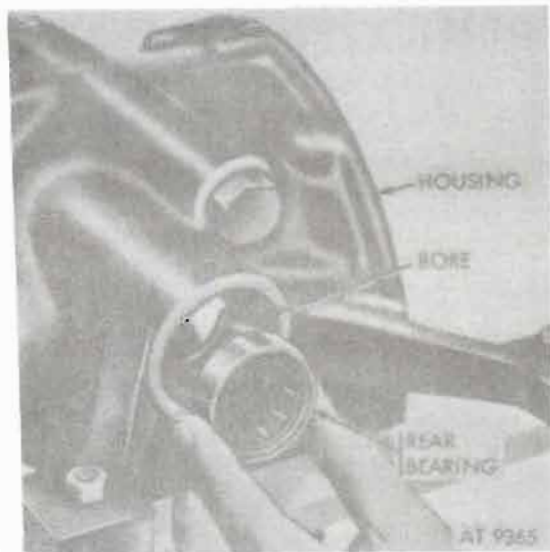

Figure 12-46. Pinion shaft rear bearing.
a. Insert pinion shaft rear bearing in housing bore. Lubricate bearing rollers, using OE as lubricant (fig. 12-46).